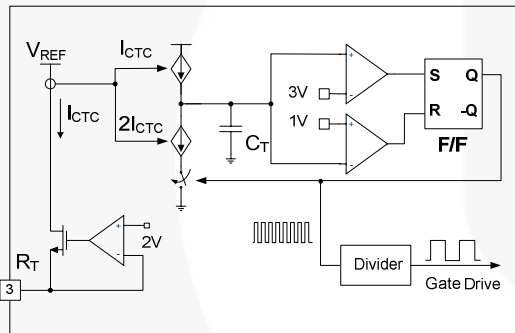

Figure 16. Current-Controlled Oscillator
2. Internal Oscillator: FLS-XS series employs a current-controlled oscillator, as shown in Figure 16. Internally, the voltage of the R_T pin is regulated at 2V and the charging / discharging current for the oscillator capacitor, C_T , is obtained by copying the current flowing out of the R_T pin (I_{CTC}) using a current mirror. Therefore, the switching frequency increases as I_{CTC} increases.